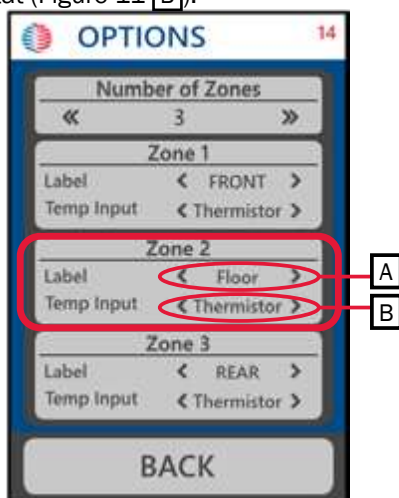

Figure 11
3. Set the zone label to "Floor" (Figure 11 **A**).
4. Choose the correct temperature input: thermistor or thermostat (Figure 11 **B**).